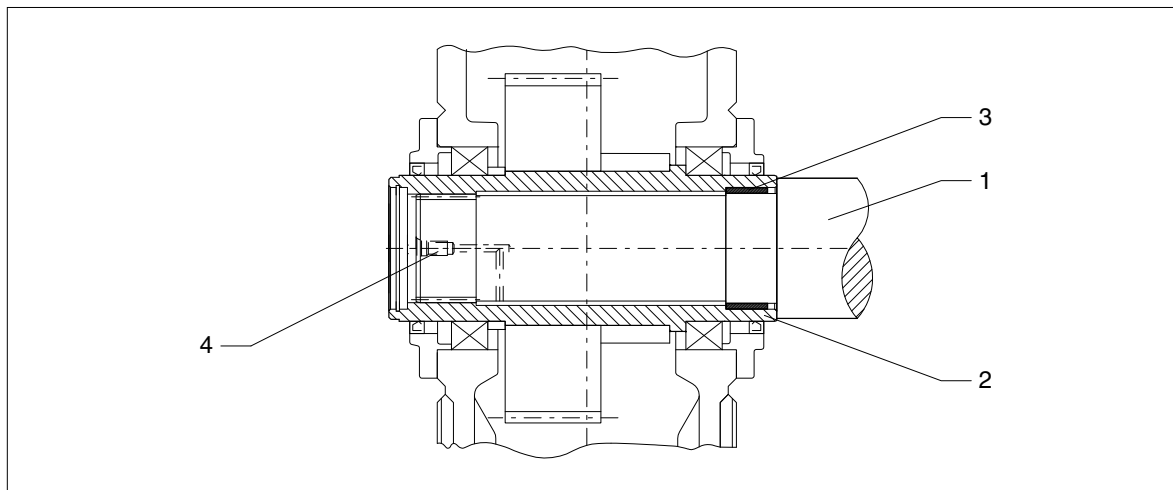

Fig. 45: Hollow shaft with splines, preparation
To facilitate demounting (see item 6.5.3), we recommend providing a connection for pressure oil in the end of the driven-machine shaft end, which is drilled through to the hollow-shaft recess (see figure 45). This connection may also be used for supplying rust-releasing agent.